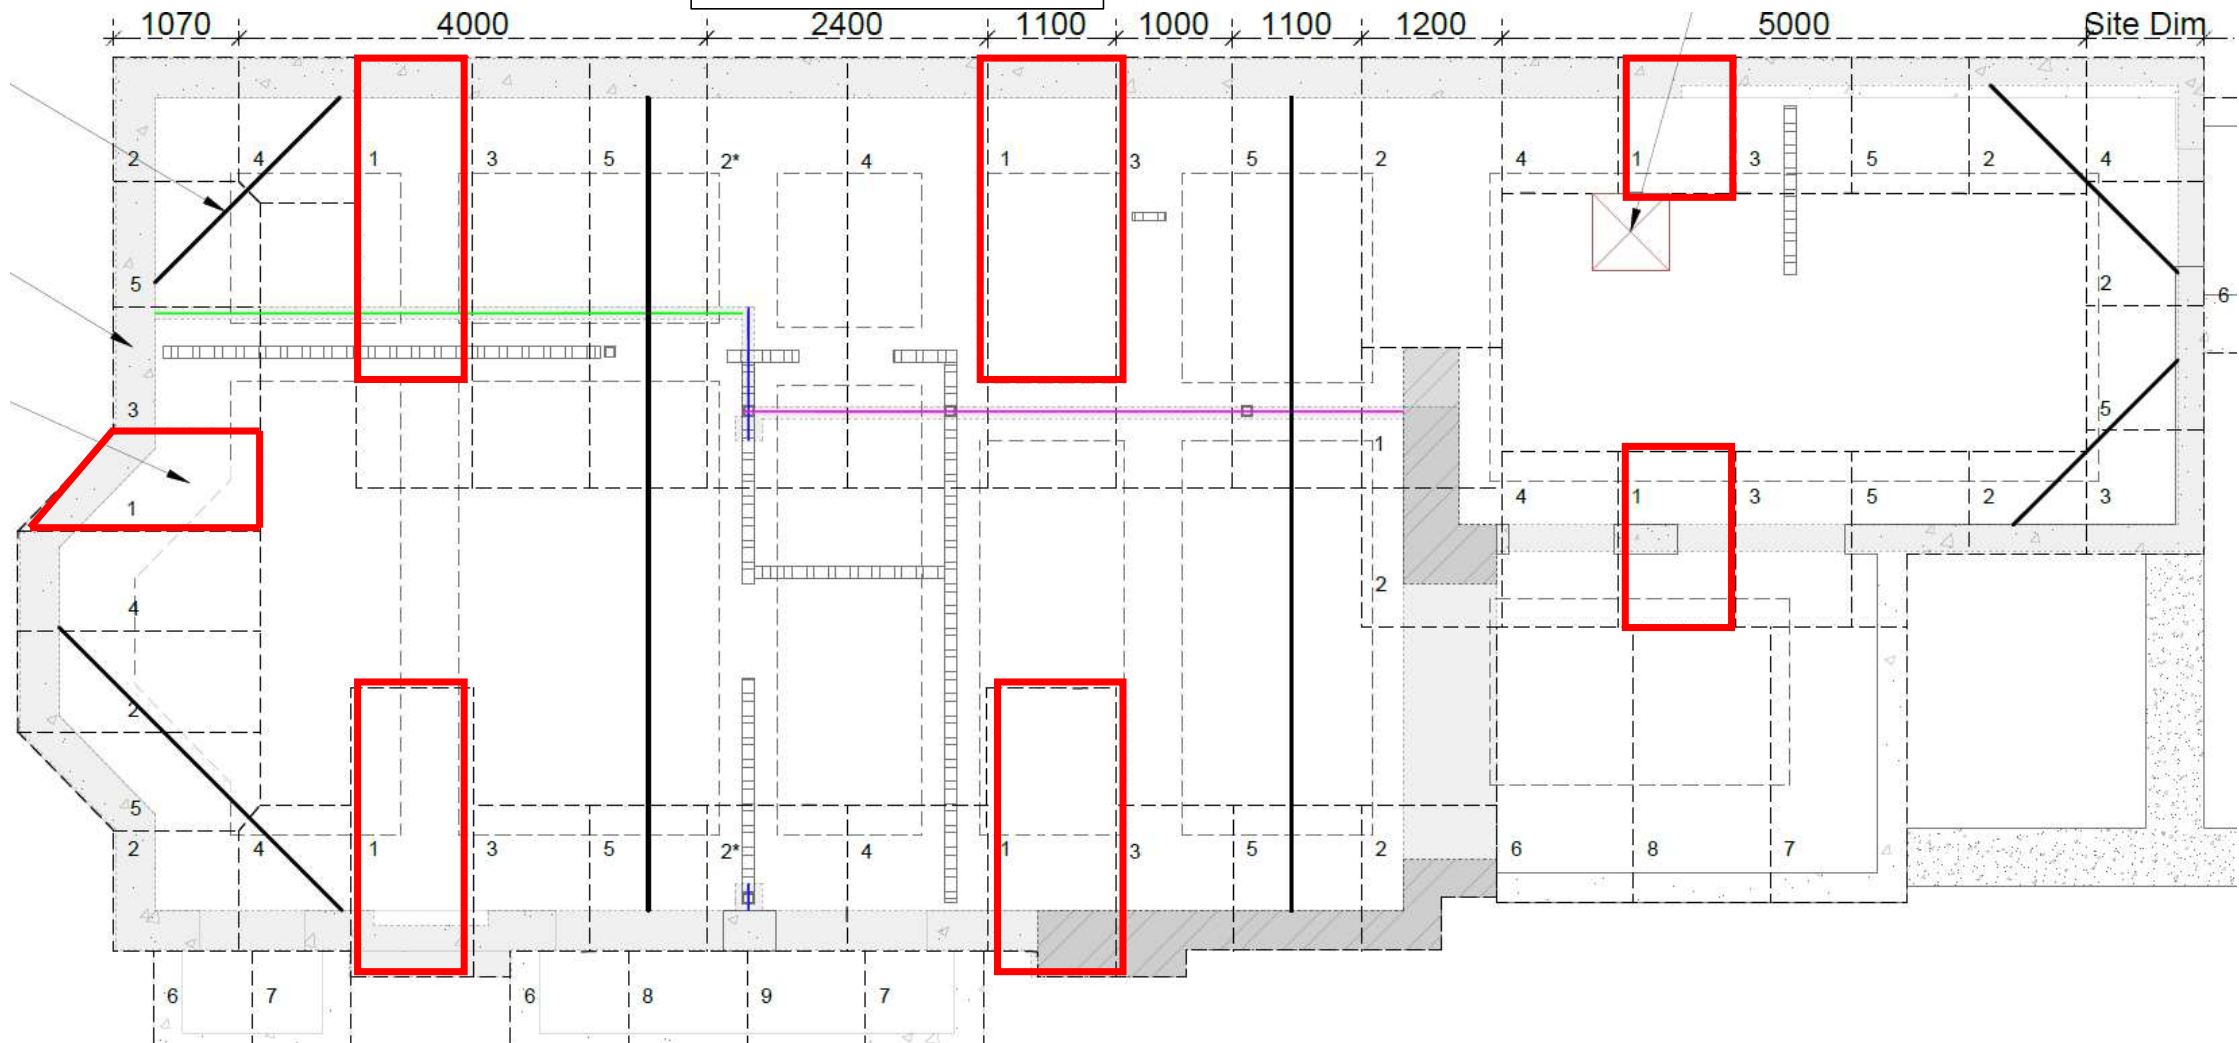

Fig 2 Propping pins
- We propose to reduce the length of the toes to North and south elevations leaving a larger retained soil area for back propping pins once installed. See Fig 2 also showing proposed propping locations.
7. Allow 24 hrs to elapse then install dry pack rammed tight, remove formwork and install temp prop from pin to retained soil as shown in fig 2
9. Repeat items 5-8 to complete sequence 2 pins